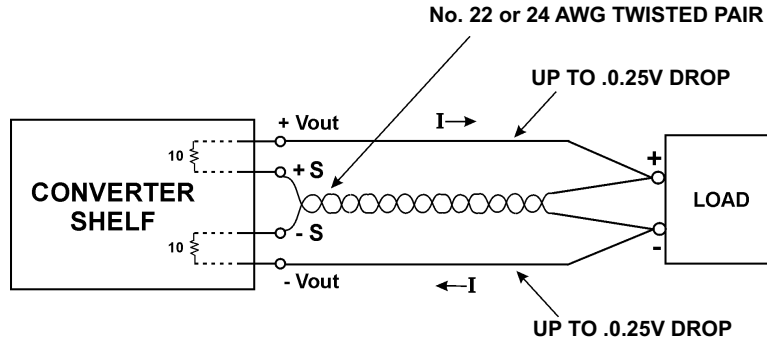

Figure 6. Remote Sensing Connection
- 12.6 Remote Sensing.** Remote sensing connections are made to pins 11 (+Sense) and 23 (-Sense) of the converter rack/shelf J4 connector. Remote sensing is used to regulate the output voltage at the point of load by compensating for the voltage drop in the wires to the load. The +Sense lead must be connected to the + side of the load and the -Sense to the - side of the load. The sense leads should be a color-coded, twisted pair of AWG no. 22 or 24 copper wire. See Fig. 6.